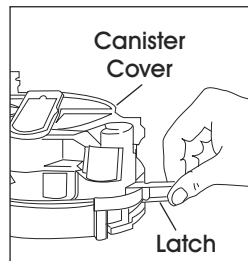

Figure 1
- Open the magazine:** Pull down latch and swing door/magazine cover open. (See Figure 1)